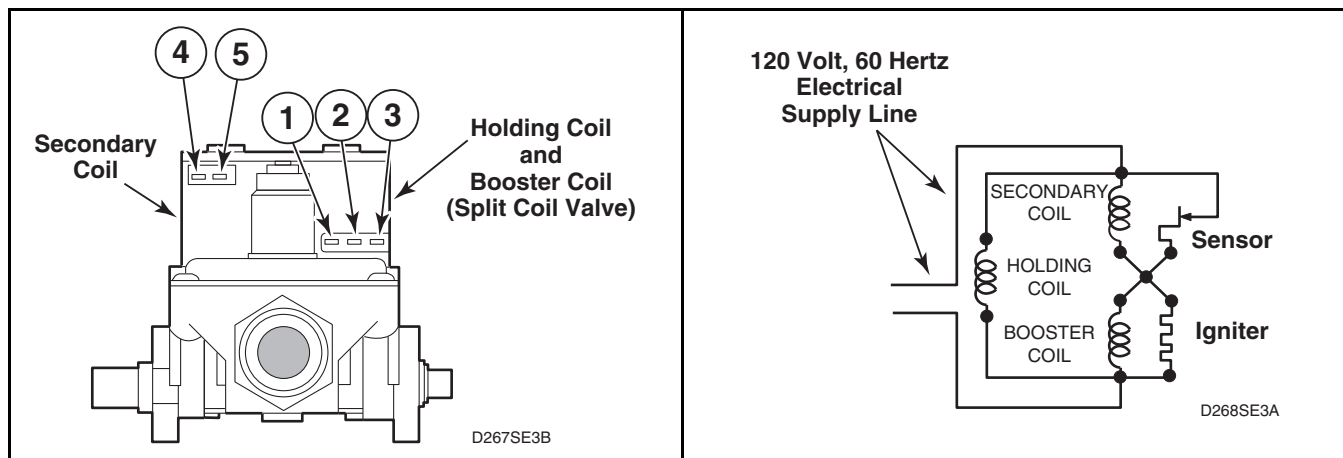

Figure 30
Refer to *Figure 30*.
- Set test meter to read AC voltage and apply meter probes into terminals on the dryer harness plug that would correspond to terminals "1" and "2" on the coil. *Figure 30*. Meter should register line voltage in all temperature settings, except FLUFF (NO HEAT) which should read "zero" VAC.